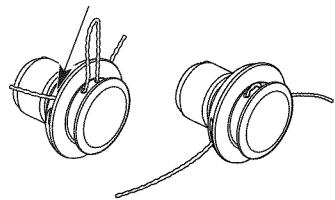

Fig. 16
- Pull the line and make sure the line is against the hub and is fully extended through the positioning tunnels (Fig. 16).